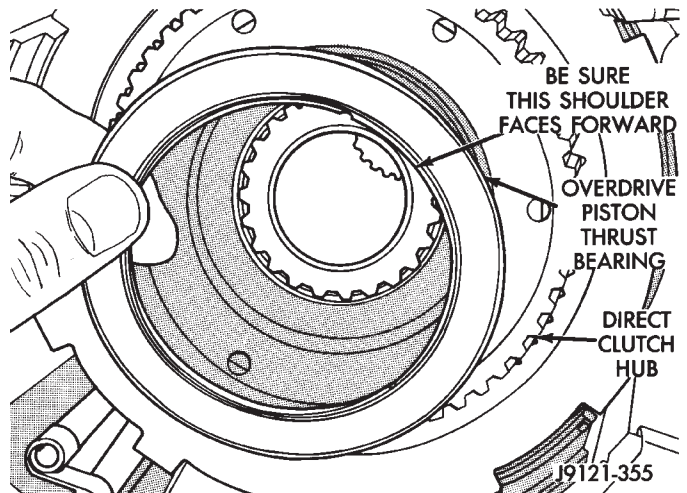
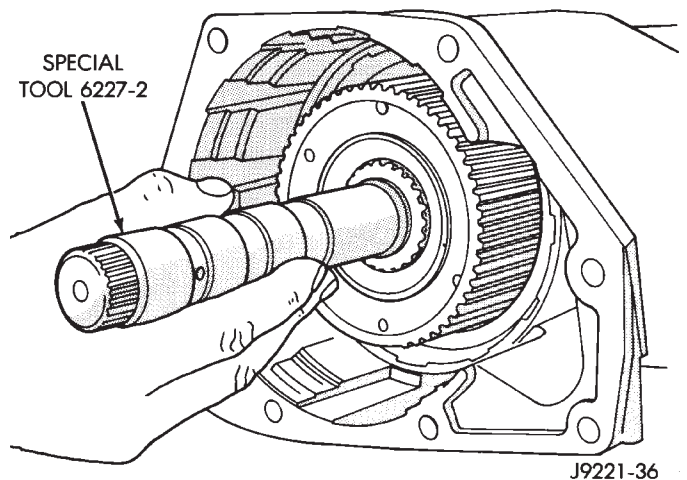

Fig. 181 Installing Overdrive Piston Thrust Bearing
Fig. 182 Checking Alignment Of Overdrive Planetary Gear And Overrunning Clutch Splines
(42) Install overdrive piston thrust bearing in direct clutch hub (Fig. 181). Use liberal quantity of petroleum jelly to hold thrust bearing in place. **Note that one side of bearing has dark coated surface. This surface faces overdrive piston. Also be sure raised shoulder on inside diameter of bearing faces forward as well.**
(43) Apply small amount of petroleum jelly to pilot hub of intermediate shaft.
(44) Verify alignment of splines in overdrive unit planetary gear and overrunning clutch. Be sure Alignment Tool 6227-2 is still fully seated (Fig. 182). **If planetary gear and overrunning clutch splines become misaligned, overdrive unit cannot be fully installed on intermediate shaft. Overdrive unit may have to be disassembled in order to realign splines.**